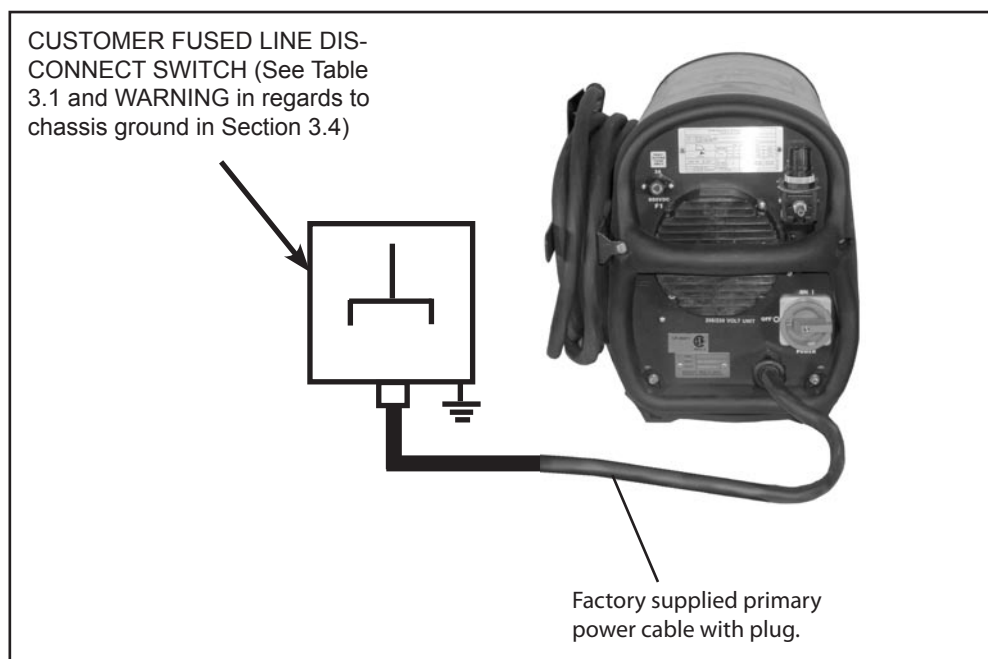

Figure 3.1 Customer Fused Line Disconnect and Receptacle
3.4.1 PRIMARY ELECTRICAL INPUT CONNECTIONS (FIGURE 3.1)
A line (wall) disconnect switch with fuses or circuit breakers should be provided at the main power panel (see Fig. 3-1 and Table 3-1 for fuse sizes). The input power cable of the console may be connected directly to the disconnect switch or you may purchase a proper plug and receptacle from a local electrical supplier. If using plug/receptacle combination, see Table 3-1 for recommended input conductors for connecting receptacle to line disconnect switch.